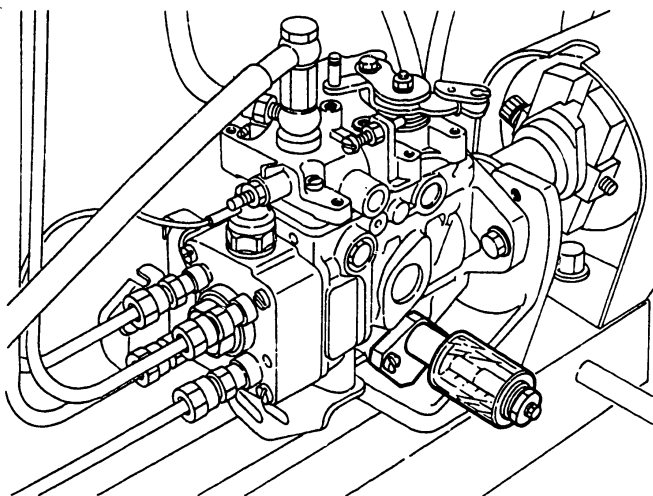

Fig. 170 Preparation
1. Install the measuring device (1 688 130 139) to the timer's high pressure side (Fig. 170 )